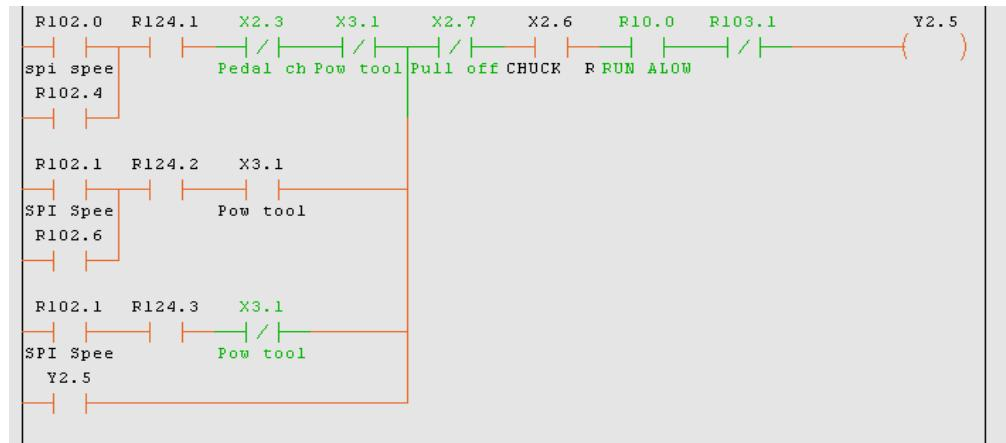

Figure 6.6.4 Tool arm inverse
- Find the code position of the tool arm inverse. See Figure 6.6.4.
- Select a line, e.g. ATCI in Figure 6.6.4, and then force enable all primitives that have been disconnected in this line.